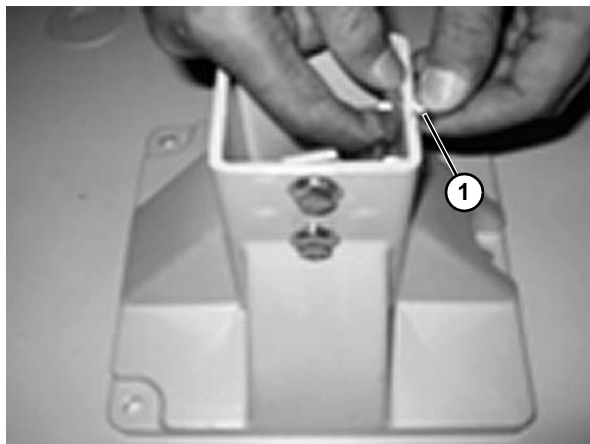

Figure 10
1. Insert hex head screws and washers (**Figure 10, item 1**) into the holes on the side of the foot. Use the screws to fasten foot connecting strips to the inner side of the foot. Leave loose.